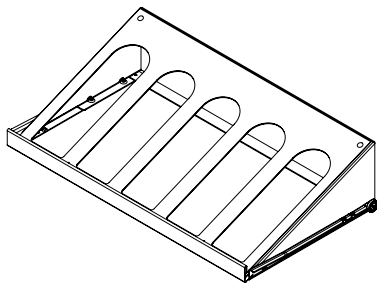

Figure 36
- (1) Five bottle rollout display rack with vibration dampening mat (See Figure 36).